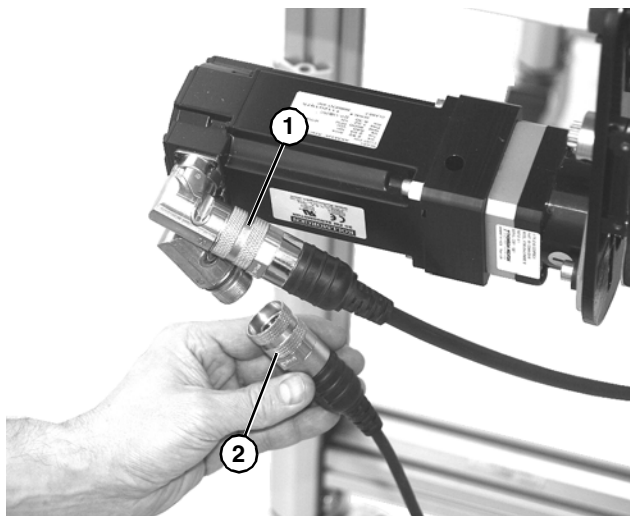

Figure 55
1. Disconnect motor power connector (**Figure 55, item 1**) and feedback connector (**Figure 55, item 2**).